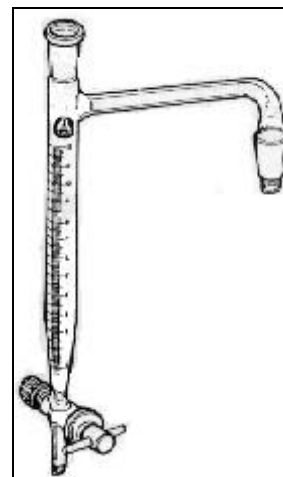

Figure 1
**THE NATURE OF THIS INVESTIGATION:** Since an **ester** is derived from the corresponding **alcohol** and **carboxylic acid**, **hydrolysis** of the product of formation also occurs with the same catalyst. This **reversion** may be circumvented by removal of either of the products. In practice, water is normally co-distilled as an **azeotrope** using a solvent such as benzene or toluene. We shall observe Le Chatelier's principle in action as the water which is produced from the reaction "settles out" and fills the sidearm adapter as the reaction progresses at **reflux**. In synthetic operations, a device known as the Dean-Stark adapter (Fig. 1) is an attachment which collects and measures the volume of water liberated from the reaction. A crude (but, inexpensive and efficient) modification will be utilized in this experiment. While distilling the product in this experiment, note and describe any aroma which may permeate your environment.